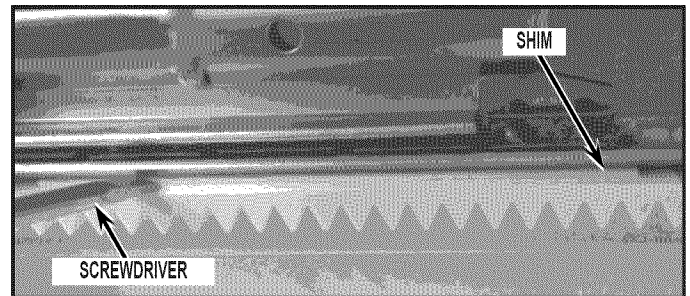

FIGURE 4
6. To make sure that the shim is completely in place, use a flathead screwdriver to push the shim in (it will stop once it hits the back of the side adapter). See *Figure 4*.